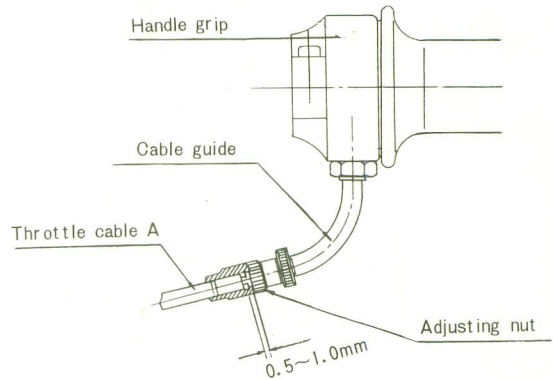
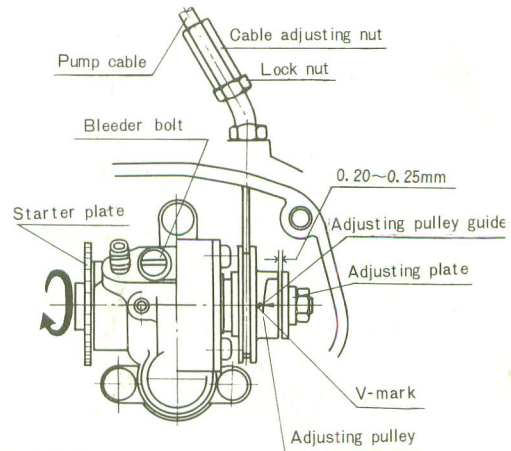

Fig. 2-3-3
Fig. 2-3-4
- b. Adjust the play of the throttle cable connected to the handle grip to 0.5 ~ 0.1 mm. Do this by turning the adjusting nut to the cable guide. (Fig. 2-3-3)
- (3) After adjusting the throttle cable, set the oil pump correctly.
- a. Slowly open the handle grip until the play of the throttle cable is removed. (When the play is reduced to zero, the grip becomes somewhat tight). Adjust the pump cable so that the mark on the adjusting pulley is aligned with the guide pin. (Fig. 2-3-4)